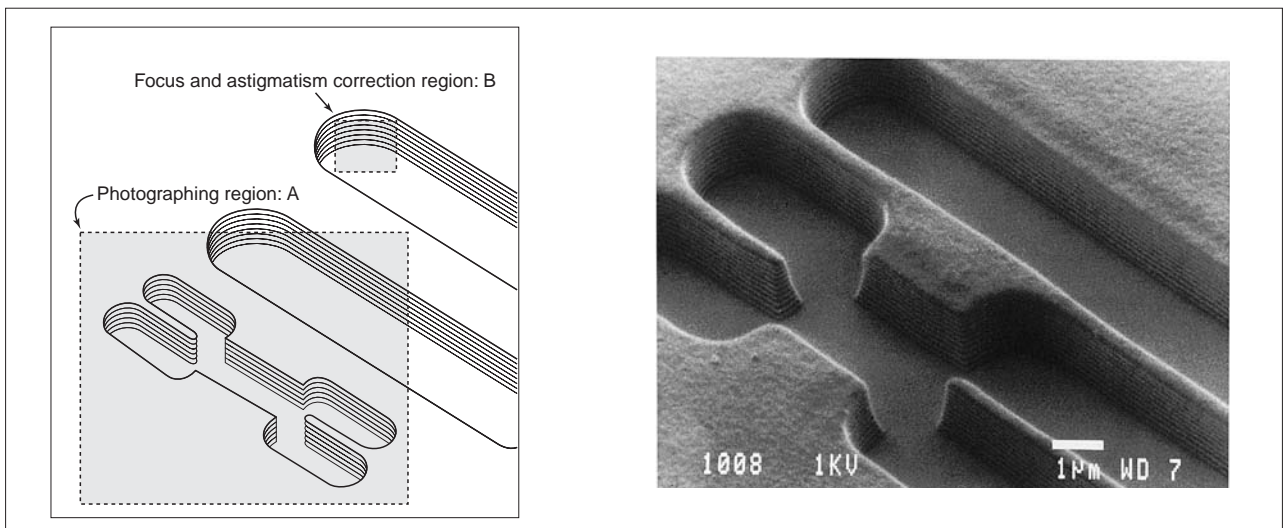

Fig. 2 Change the place for performing the astigmatism correction and adjusting the focus from the photographing region.
- (1) Clean a specimen sufficiently using organic solvent. This method is effective in such a case as the specimen surface is stained with oil and you need to replace the solvent to clean the specimen a few times, and finally heat the specimen to sufficiently dry it.
- (2) In order to sufficiently degas the organic gas from the conductive paste for bonding the specimen, heat the specimen at 60 to 100°C. Sometimes it takes a few hours to heat the specimen itself at about 200°C to completely outgas. This method is effective for a thermally stable specimen.
- (3) It is also effective to heat a specimen at 110°C using the heating specimen holder in the specimen chamber of the SEM, however, because specimen drift occurs, it sometimes takes a few 10 minutes until the thermal equilibrium is attained.
- (4) You can reduce specimen contamination by installing a (optional) cold fin for preventing contamination in the instrument.
- (5) When the photographing region A is determined as shown in Fig. 2, perform the astigmatism correction and adjust the focus at the region B which is out side of the region A, and then return to the region A to take a photo.